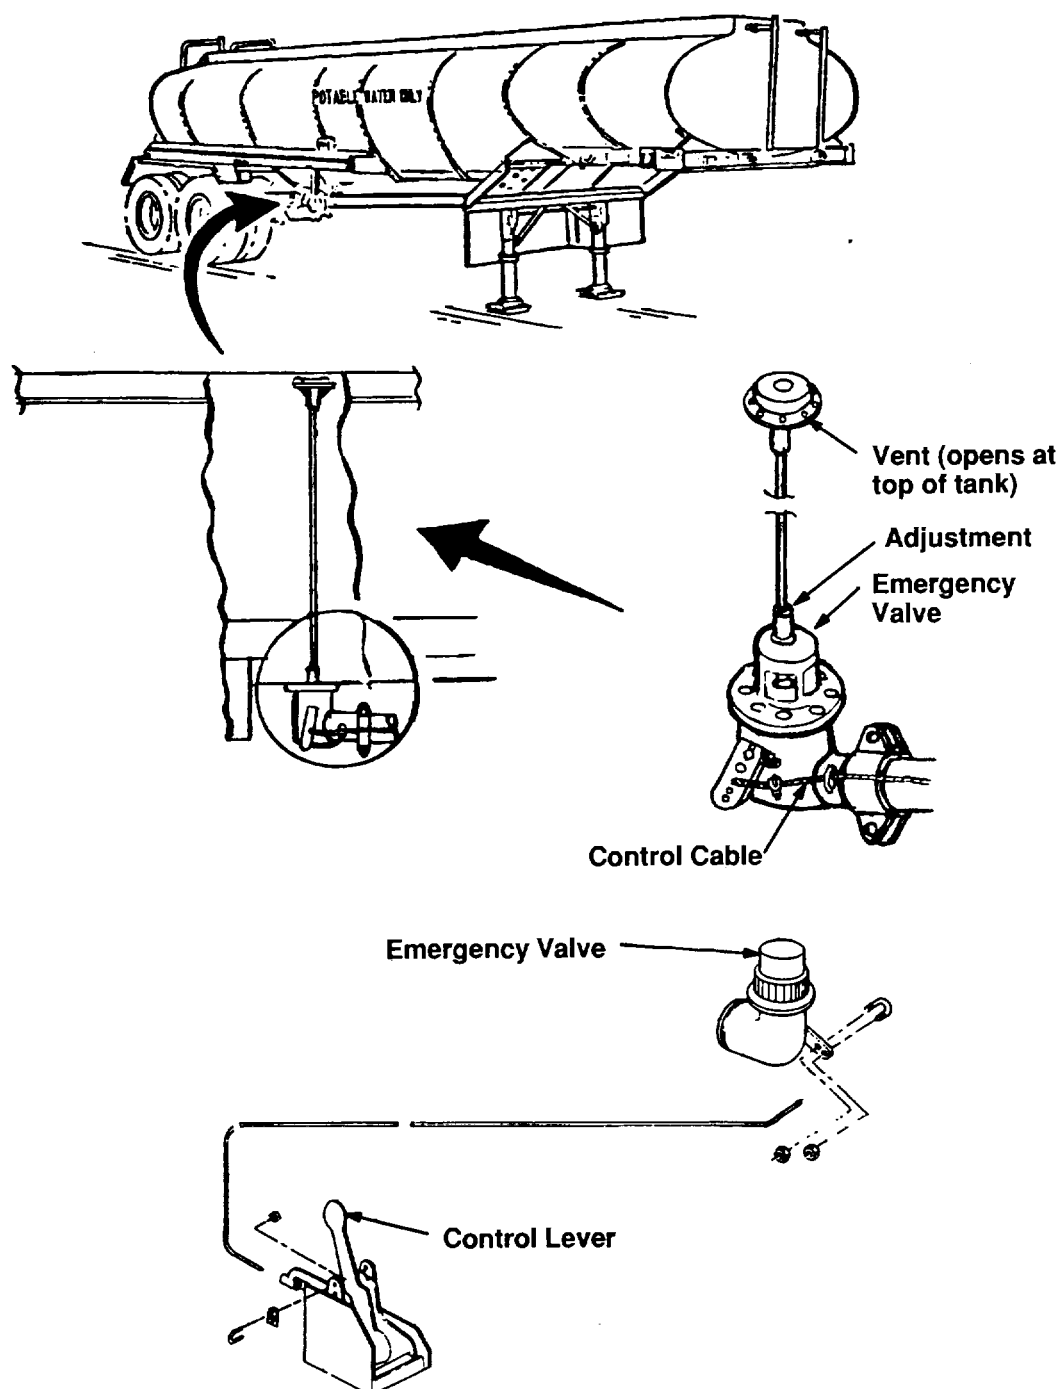

Figure 2-5. Emergency Valve Operation Mechanism
b. Emergency Valve Operation. The emergency valve controls the tank outlet, fig. 2-5. The emergency valve is mechanically operated by a lever in the piping control assembly. Engaging the lever opens the emergency valve to permit water flow to/from the tank sump. At the same time, the vent at the top of the tank opens to relieve pressure/vacuum during loading/unloading.
(1) The emergency valve must be open for all loading/unloading operations except top loading.
(2) In an emergency, close the emergency valve by disengaging operator handle.
1. Open emergency valve that feeds water to all water outlets, fig. 2-5.